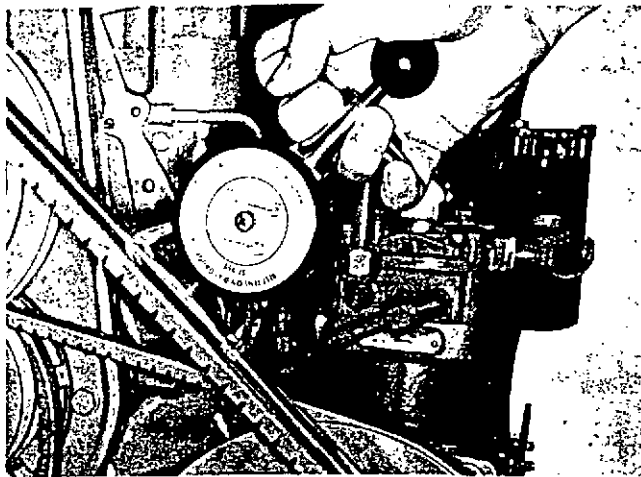
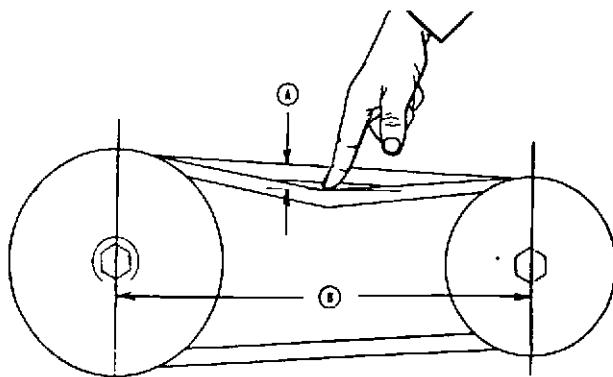

Fig. 5-30, N11955. Checking belt tension with ST-968 Gauge
Fig. 5-31, N11471. Checking belt tension manually
- h. Check the belt tension with applicable Belt Tension Gauge, Fig. 5-30. Correct tension is 90-110 pounds as indicated on this gauge. If gauge is not available, apply pressure of the index finger at center of the longest span of belt. Deflection should be one belt thickness per foot of pulley center distance. Fig. 5-31. See Table 5-4.